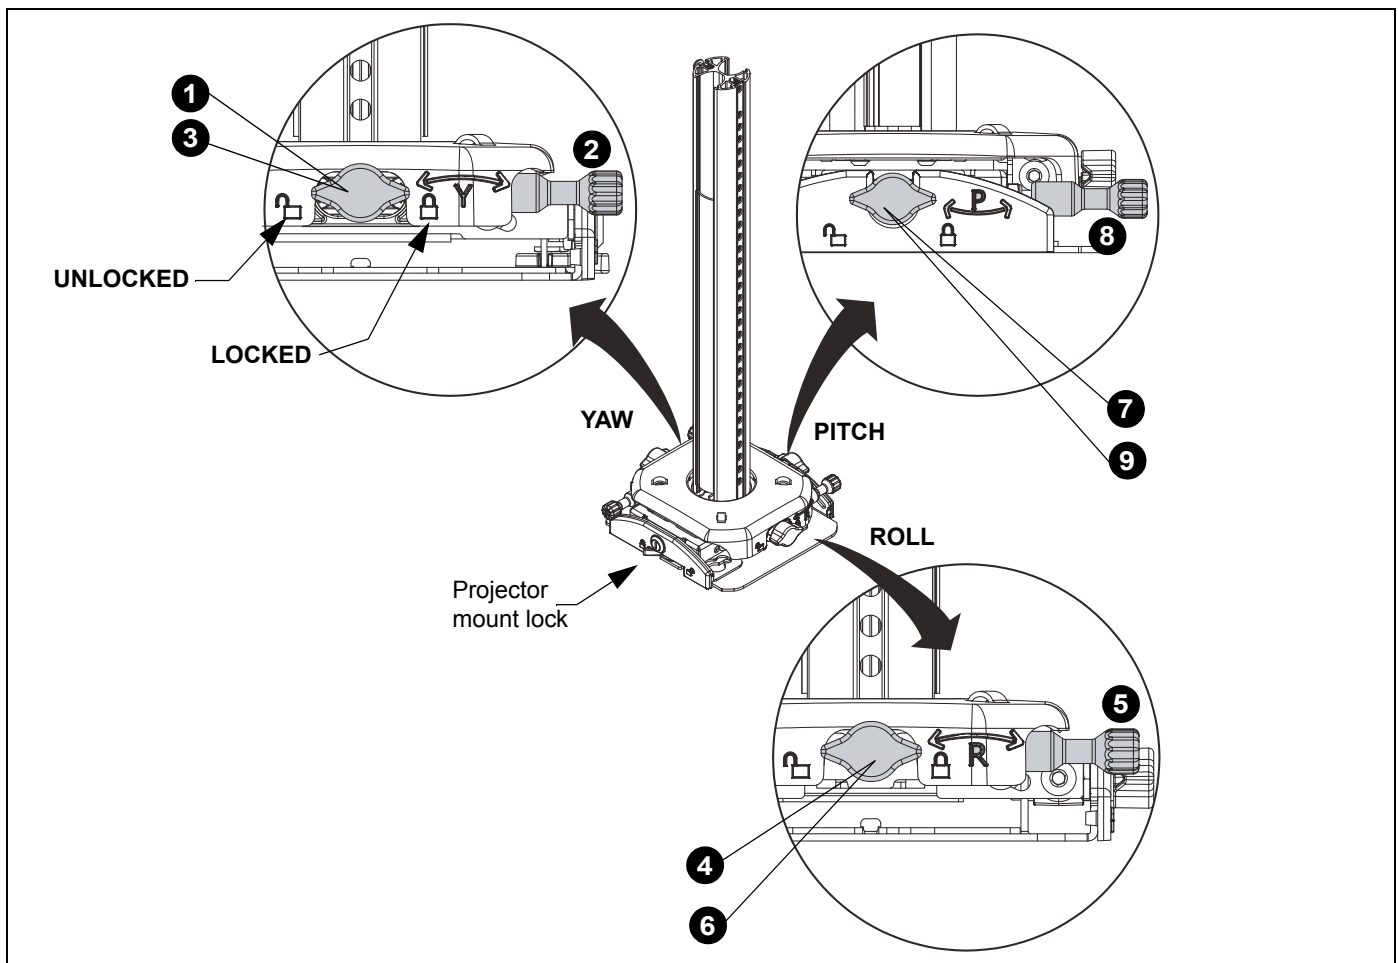

Figure 23
**NOTE:** Be sure to use the correct adjustment feature (Yaw, Roll or Pitch) when adjusting the projector mount. (See Figure 23)